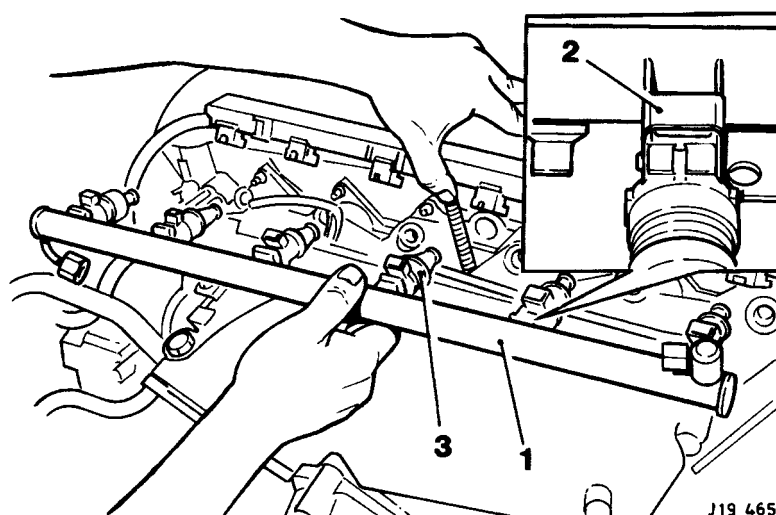

Fig. 1
- Remove fuel rail assembly (1 Fig.1) from manifold.
- Remove the injector retaining clips (2 Fig.1).
- Remove injectors (3 Fig.1).